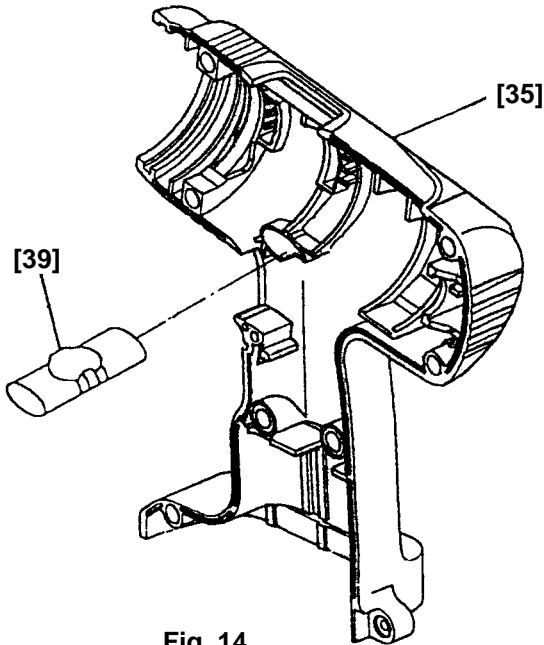

Fig. 14
(4) Installation of the assembly reassembled in step (3) into Housing (A). (B) Set [35]
- (a) Install the Pushing Button [39] into Housing (B) [35]. (See Fig. 14.)